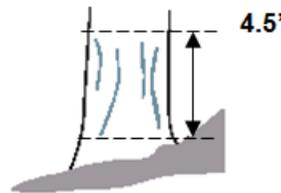
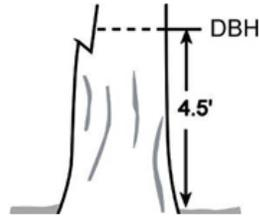

*Figure 7 - Tree with Swelling*
Figure 11 - Tree with Part of Stem Missing
4. **Tree with Irregularities at DBH:** On trees with swellings (Figure 7), bumps, depressions, and branches (Figure 8) at DBH, diameter will be measured immediately above the irregularity at the place it ceases to affect normal stem form.
8. **Missing Wood or Bark:** Do not reconstruct the DBH of a tree that is missing wood or bark at the point of measurement. Record the diameter of the wood and bark that is still attached to the tree (Figure 11). If a tree has a localized abnormality (gouge, depression, etc.) at the point of DBH, apply the procedure described for trees with irregularities at DBH (Figures 7 and 8).